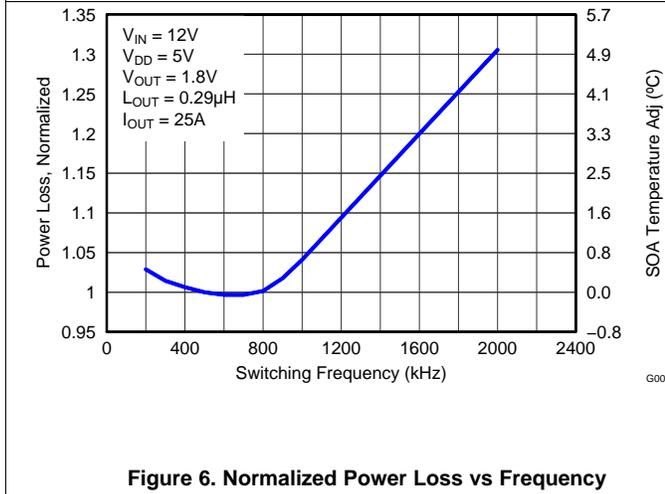

Figure 6. Normalized Power Loss vs Frequency
- Normalized Power Loss for switching frequency \approx 1.04 (Figure 6)
- SOA adjustment for switching frequency \approx 0.7°C (Figure 6)